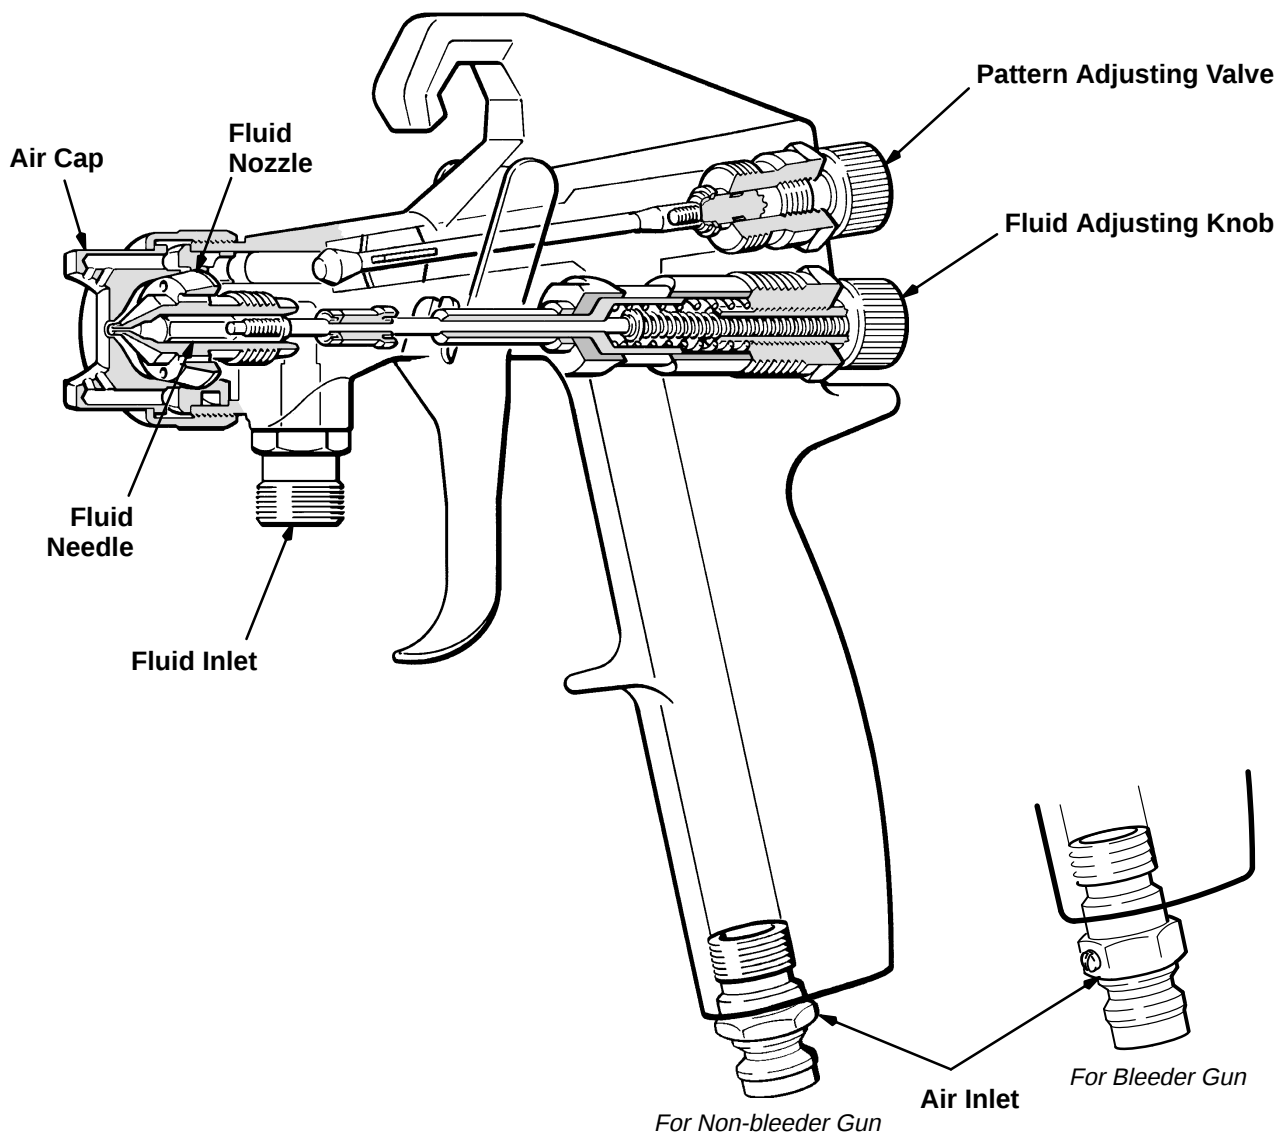

Fig 1
- a. Turn the fluid adjusting knob out (*counterclockwise*) until no restriction of the trigger movement is felt. Refer to Fig 1.